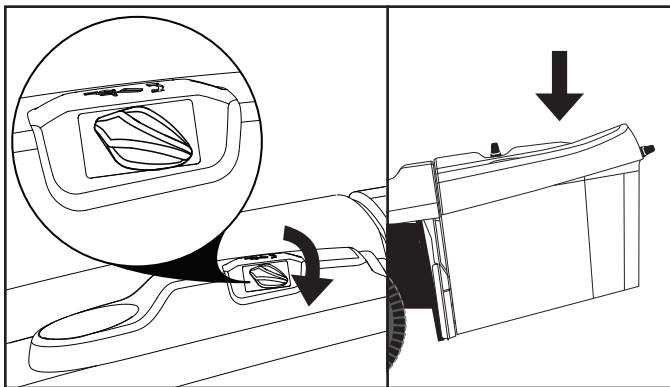

Fig. 22
- To lower the bagger, turn the electric dump switch clockwise. See Fig. 22.